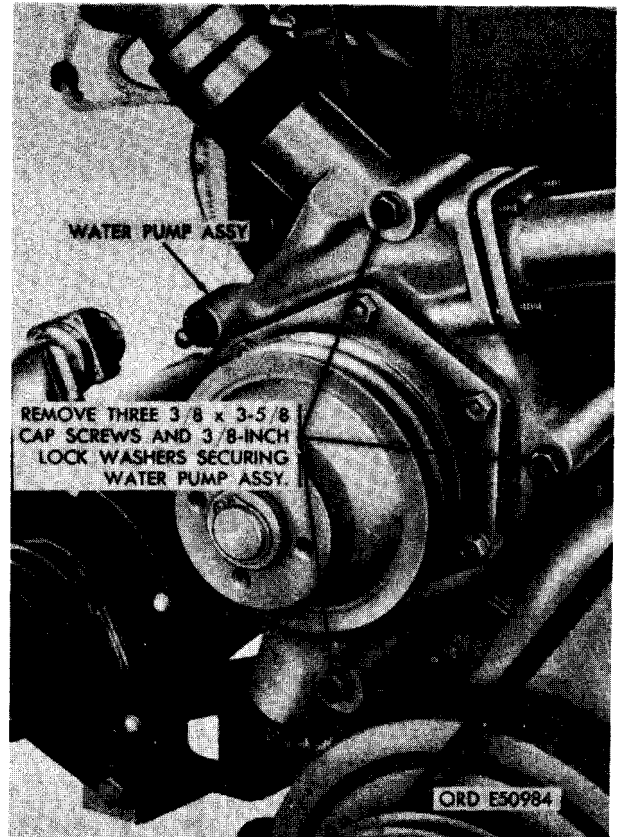

**FIGURE 113. REMOVING OR INSTALLING ENGINE FAN AND GENERATOR DRIVE BELTS FOR WATER PUMP REPLACEMENT.**
- (2) Figure 113. (A) Remove 3/8 x 7/8 cap screws, 3/8- inch lock washer, and special flanged washer securing generator adjusting strap to generator assembly. (B) Push generator assembly toward engine and remove the two engine fan and generator drive belts from generator pulley, water pump pulley, (C) Remove 3/8- inch plain nut and 3/8- inch lock washer securing generator adjusting strap to water pump. Remove adjusting strap.